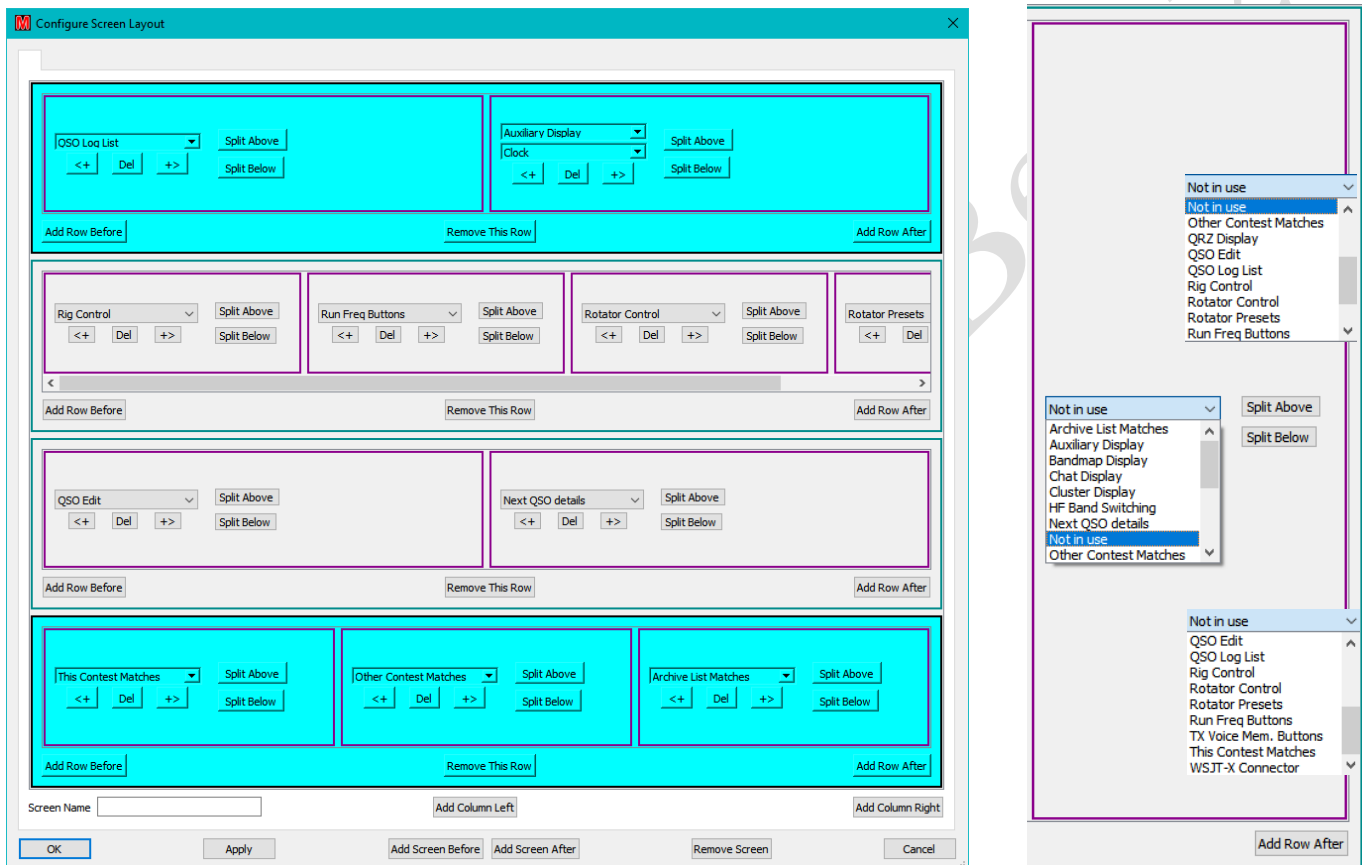

Figure 54 – Add column to left/right
- “**Add Column Left/Right**” is typically used for the Bandmap Display⁵⁴ (Figure 54 right), although other panels may be configured. The extent of the column is marked using the CTRL key (Figure 54 left) and clicking to select the top and bottom rows, then clicking the requisite button⁵⁵.